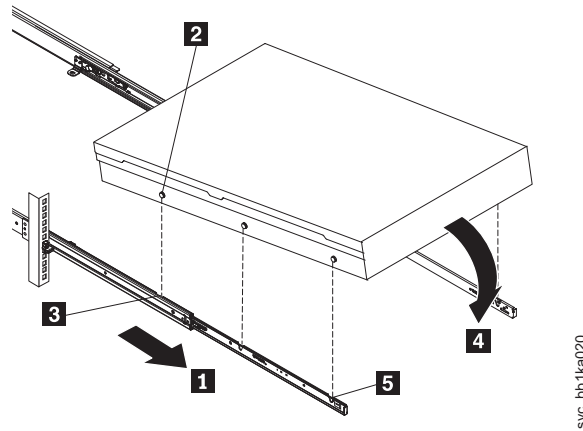

Figure 37. Installing the SAN Volume Controller 2145-DH8 node in the slide rails of the rack
- a. Pull the slide rails forward until they click twice into place. See **1** in Figure 37 on page 35.